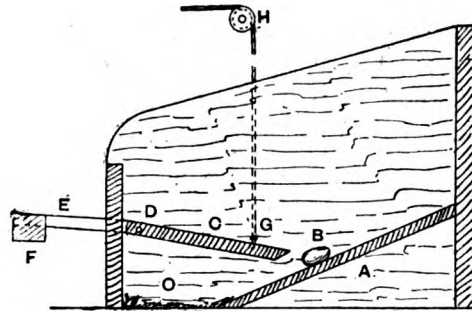
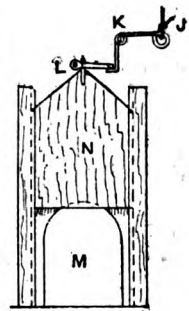

FIG. 1
FIG. 2
**Trap Nest for Fowls.**—Fig. 1 shows a section of a trap nest for laying hens. The bottom of this box consists of a slope piece A at the back, to which the nest egg B is secured, and a movable piece C working on pivots D fixed at the ends to work in holes bored through the ends of the nest box. A lever E is secured at one end of C, and to the other end is attached a balance weight F to lift C to the position shown. If desired, a spring may be used instead of the weight. A cord is attached to the end of C at G, and this, after passing through a hole in the end of the box, is brought over the pulley H, and taken to another pulley over J (Fig. 2). A bell crank lever, made out of a piece of wire, is secured at K (Fig. 2) with a screw, and a short straight lever is
secured at L with another screw. The entrance to the nest box M is fitted with a sliding door N, which is hung on the lever L by means of a hook. When the hen enters the nest, the weight on C pulls the cord and lifts the lever at J, which releases the trigger and allows the door to drop. When the hen leaves the nest, C (Fig. 1) rises, and the egg rolls into the cavity O, where some chaff is placed to prevent the eggs breaking. This arrangement is also useful to prevent hens eating the eggs. The nest box is placed in a pen which can be entered only through the door M (Fig. 2).